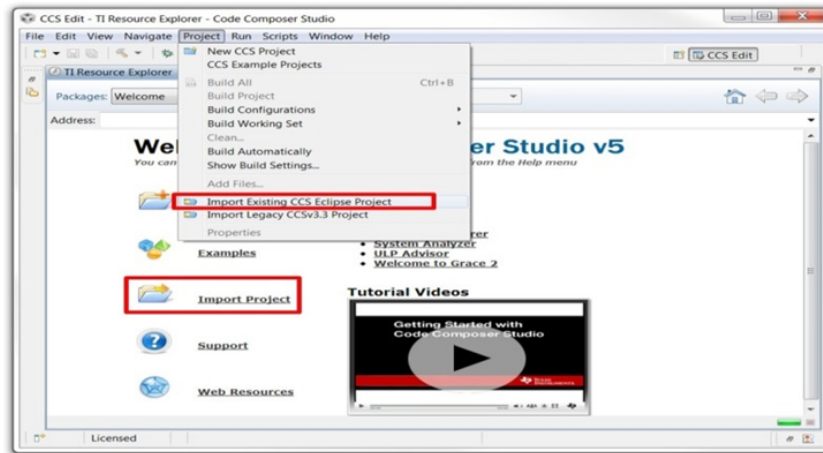

Figure 22. Importing Existing Projects
- Step 4. Import a project either from the welcome menu by selecting *Import Project* or go to the *Project* menu and select *Import Existing CCS Eclipse Project* (see Figure 22).